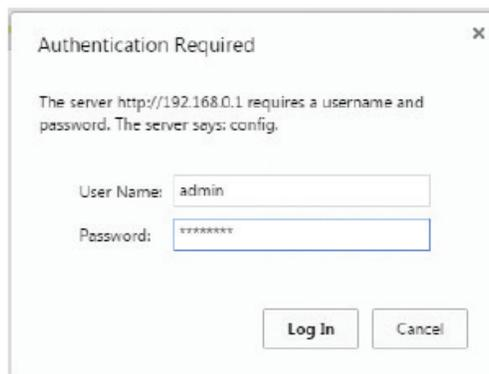

Figure 2: ThermaSol SWM-2 configuration web page log in
2. When prompted, enter default values “admin” for username and “PASSWORD” for password to log in to the SWM-2 configuration web page as shown in Figure 2